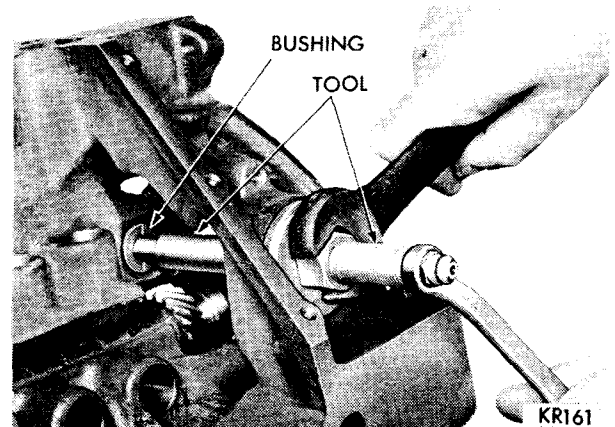

Fig. 24—Burnishing Distributor Drive Shaft Bushing
- (4) As burnisher is pulled through bushing by tightening puller nut, bushing is expanded tight in block and burnished to correct size (Fig. 24). DO NOT REAM THIS BUSHING.